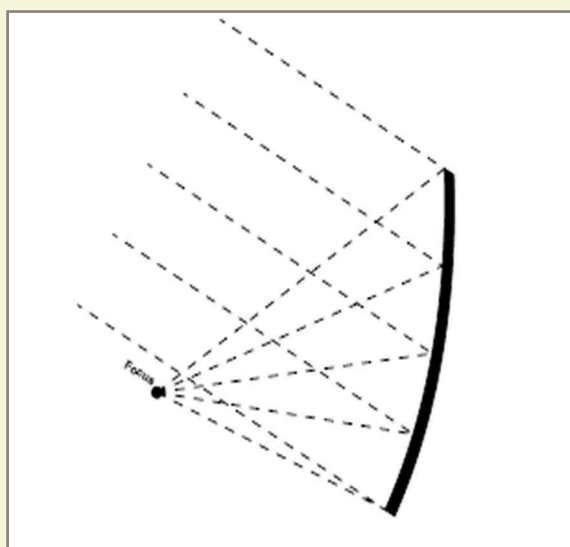

Fig.2. Offset Parabolic Dish Antenna Aimed at Satellite
**2.** An 18 inch DSS offset-fed dish at 10 GHz, with measured gain of 32.0 dB and efficiency of 63%. The spillover efficiency should be comparable, but with the offset dish pointing at a high elevation as shown in Figure 2, far less of the spillover is illuminating warm earth. If we estimate 20%, then 8 K is added to the 6 K of sky noise, for a total of 14 K. In a 500 Hz bandwidth, the noise output is -160 dBm.